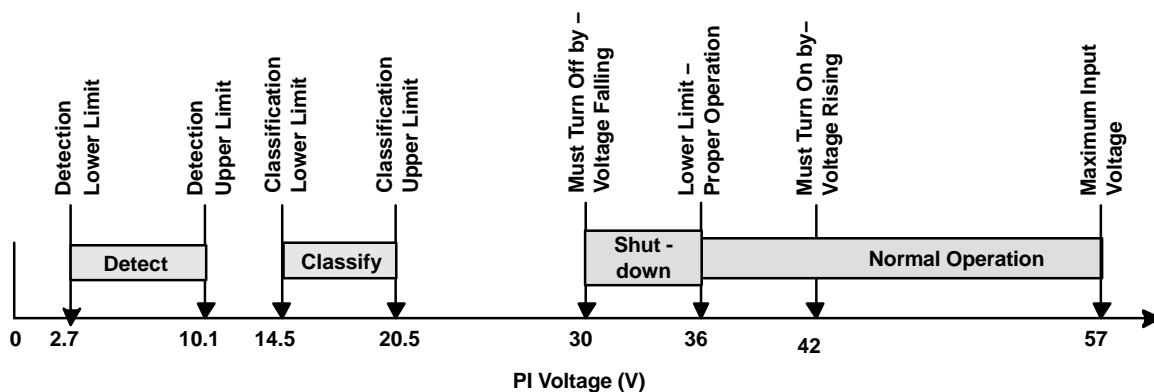
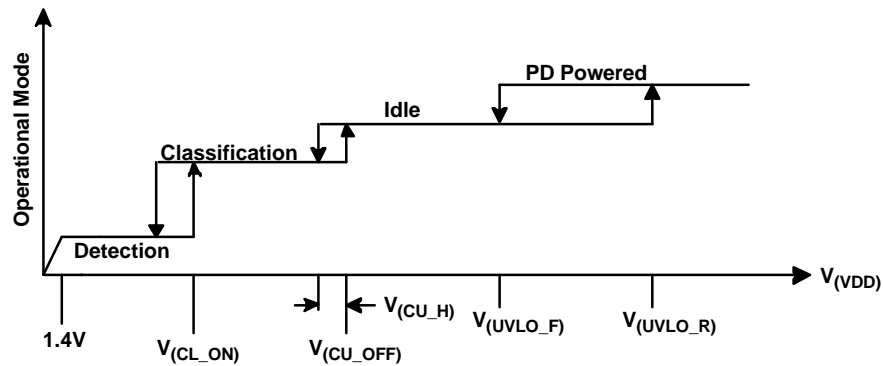

Figure 16. IEEE 802.3 PD Limits
Figure 17. Threshold Voltages
The IEEE 802.3af specification defines a process for safely powering a powered device (PD) over a cable, and then removing power if a PD is disconnected. The process proceeds through three operational states: detection, classification, and operation. The intent behind the process is to leave an unterminated cable unpowered while the PSE periodically checks for a plugged-in device; this is referred to as detection. The low power levels used during detection are unlikely to cause damage to devices not designed for PoE. If a valid PD signature is present, then the PSE may optionally inquire how much power the PD requires; this is referred to as classification. The PD may return a default full-power signature, or one of four other choices. Knowing the power demand of each PD allows the PSE to intelligently allocate power between PDs, and also to protect itself against overload. The PSE powers up a valid PD, and then monitors its output for overloads. The maintain power signature (MPS) is presented by the powered PD to assure the PSE that it is there. The PSE monitors its output for the MPS to see if the PD is removed, and turns the port off, if it loses the MPS. Loss of MPS returns the PSE to the initial state of detection. Figure 16 shows the operational states as a function of PD input voltage range.
In order to implement the PoE functionality as shown in Figure 16, the TPS2375-1 has a number of internal comparators with hysteresis for stable switching between the various states. Figure 17 relates the parameters in the Electrical Characteristics section to the PoE states. The mode labeled *idle* between classification and detection implies that the DET, CLASS, PG, and RTN pins are all high impedance.
The classification process applies a voltage between 14.5 V and 20.5 V to the input of the PD, which in turn draws a fixed current set by  $R_{(CLASS)}$ . The PSE measures the PD current to determine which of the five available classes ( Table 1) that the PD is signalling. The total current drawn from the PSE during classification is the sum of bias currents and current through  $R_{(CLASS)}$ . The TPS2375-1 disconnects  $R_{(CLASS)}$  at voltages above the classification range to avoid excessive power dissipation ( Figure 16 and Figure 17).
The TPS2375-1 incorporates an undervoltage lockout (UVLO) circuit that monitors line voltage to determine when to apply power to the downstream load and allow the PD to power up. The IEEE 802.3af specification dictates a maximum PD turnon voltage of 42 V and a minimum turnoff voltage of 30 V ( Figure 17). The IEEE 802.3af standard assumes an 8-V drop in the cabling based on a 20- $\Omega$  feed resistance and a 400-mA maximum inrush limit. Because the minimum PSE output voltage is 44 V, the PD must continue to operate properly with input voltages as low as 36 V. The TPS2375-1 UVLO limits are designed to meet the turnon, turnoff, and hysteresis requirements.
The TPS2375-1 uses the UVLO function to control the load through an integrated MOSFET switch. Figure 17 graphically shows the relationships of the UVLO thresholds defined in the Electrical Characteristics section to the TPS2375-1 operational states.